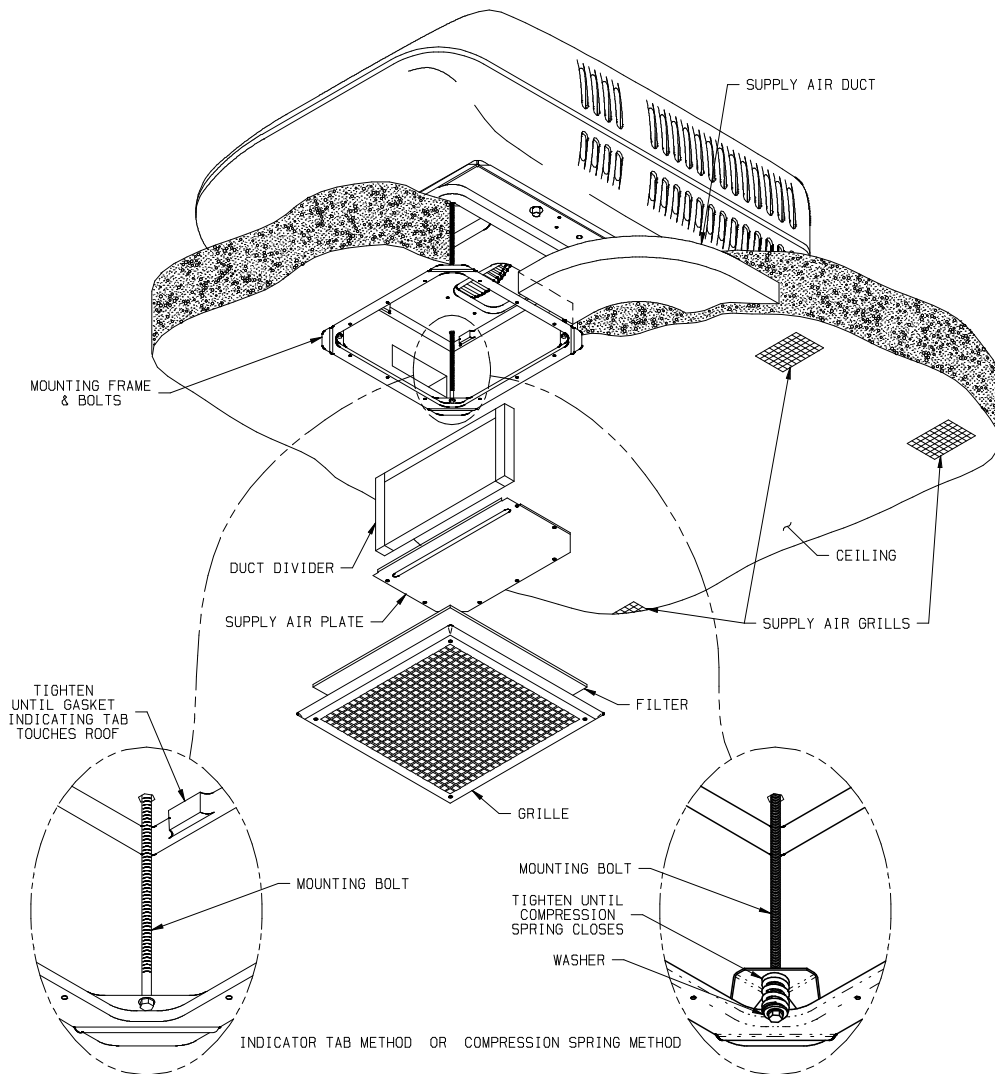

FIGURE 1
1. The field fabricated supply ducting must open into both ends of the ceiling plenum. Two ducts are required; one duct attached to the front, and one to the rear of the plenum (See Figure 1).
### A. Installing Unit (Refer to Figure 1).
2. Position the mount frame into the ceiling opening (See Figure 1).
3. Using the four bolts provided, secure the mount frame to the roof top unit. The four mounting bolts are to be applied up through the bottom of the mount frame and into the bottom of the roof top unit (See Figure 1). Tighten each bolt until the indicators of the gasket are at roof level.
### B. Installing Divider Board (Refer to Figure 1).